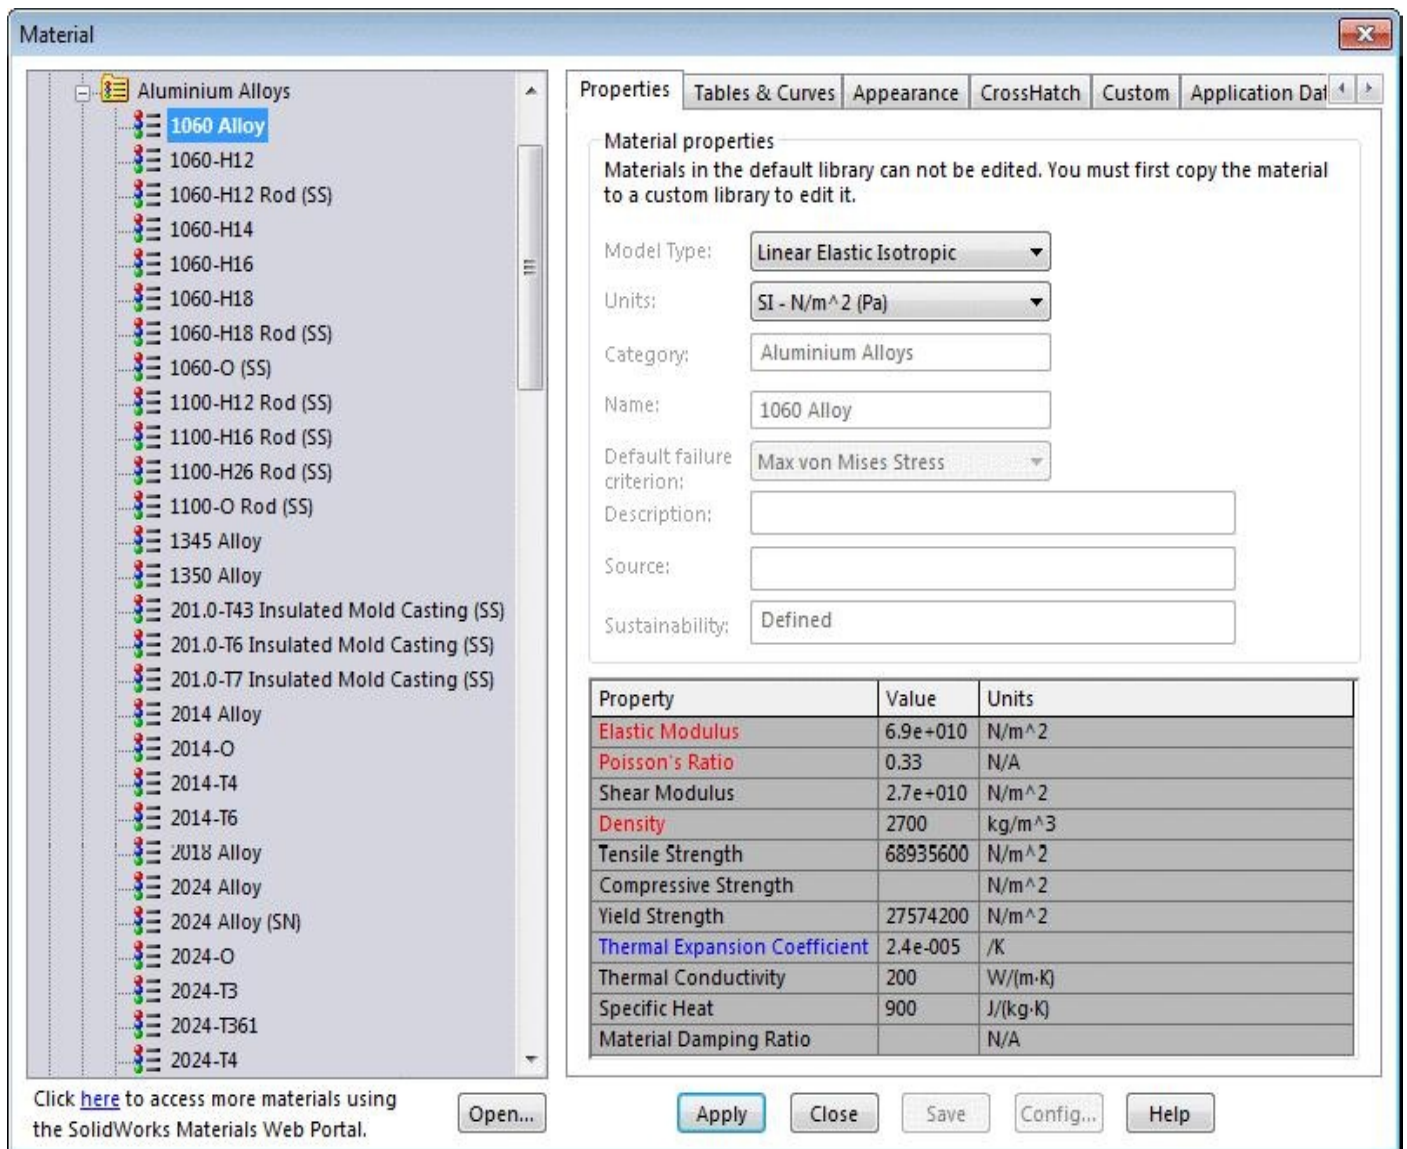

Figure-1. Material dialog box
- Click on the **Apply Material** button from the **Ribbon**. The **Material** dialog box will be displayed; refer to Figure-1.